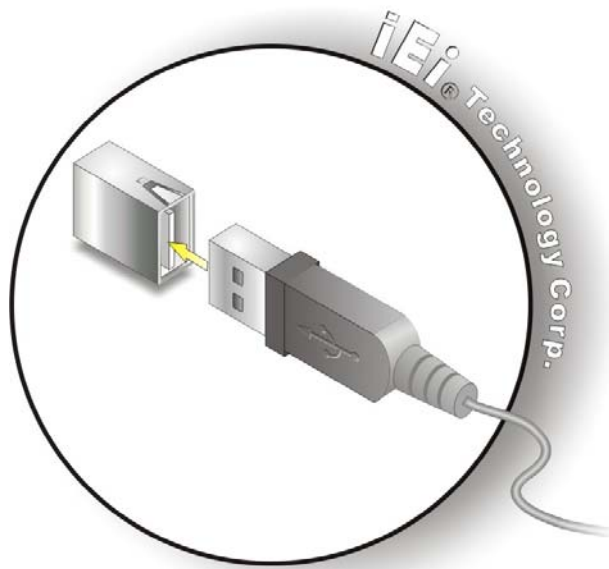

Figure 4-13: USB Device Connection
Step 2: Align the connectors. Align the USB device connector with one of the connectors on the PCISA-PV-D4251/N4551/D5251. See **Figure 4-13**.